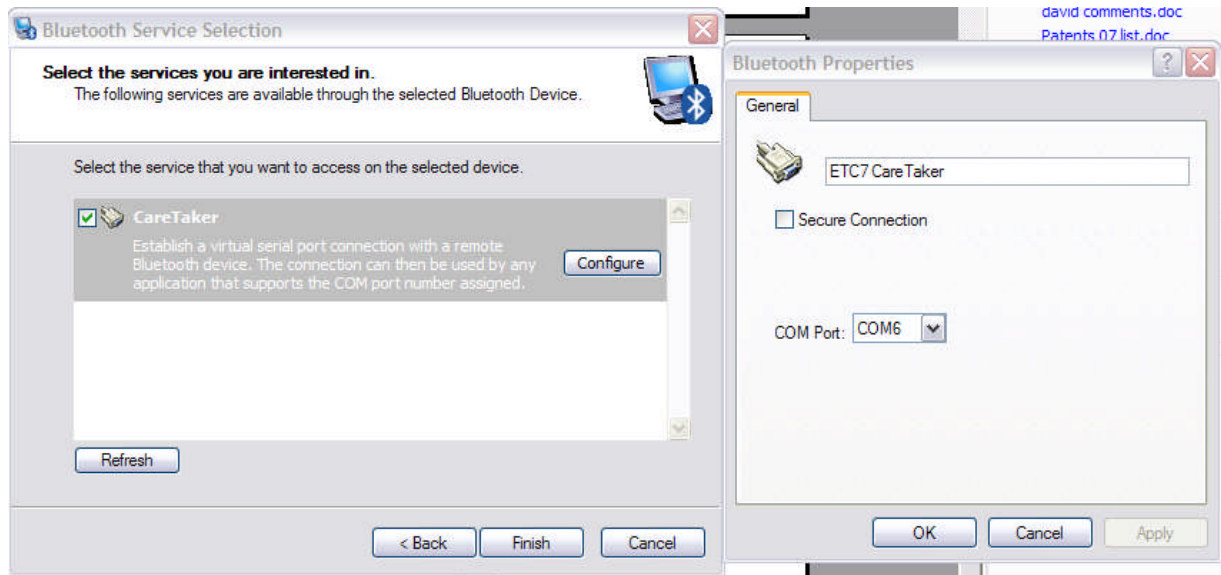

Figure 7 : Bluetooth service selection screen
- vii. Double-click on the device icon. The window changes and a “Generic Serial” icon appears. Right-click the icon and select “Properties”. Make a note of the COM port number, such as COM8 (**Figure 7**). The information can also be obtained by right-clicking the “Generic Serial” icon.